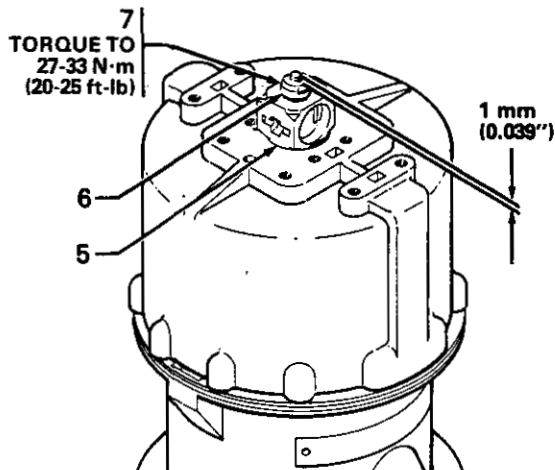

Fig 7
13. Install the housing (5), lockwasher (6) and nut (7). Hold the flats of the valve housing with a wrench and with another wrench, torque the nut to 27-33 N·m (20-25 ft-lb), leaving 1 mm (0.039 in.) of the trip rod extending above the nut. See Fig 7. Release the pliers.